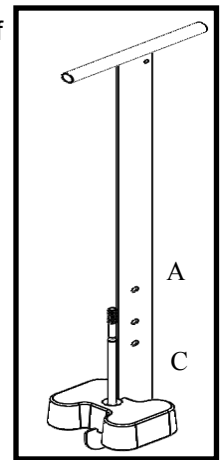

Figure 5.
3. Install coupler with seated bolt on the in-water installation tool, (Figure 5).
same elevation for the coupler to properly seat into the bottom pocket. This may require a counter balance weight towards the opposite end of the EZ Kayak Launch to offset the weight of the installer who is standing at the seam between the EZ Kayak Launch and the EZ Dock). The coupler is fully seated in its pocket when the indicator hole on the in-water installation tool (Figure 5) is flush with the top of the dock (you should be able to insert a screwdriver through the indicator hole).